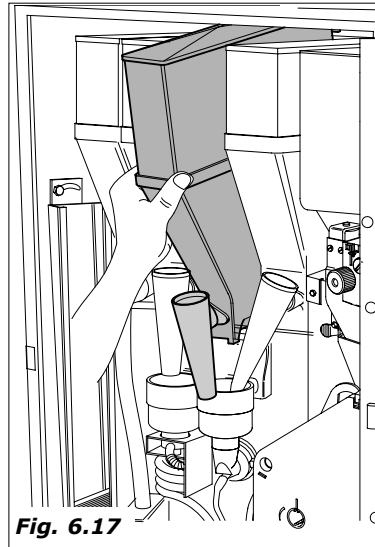

Fig. 6.17
- remove all the product containers from the distributor (Fig. 6.17)